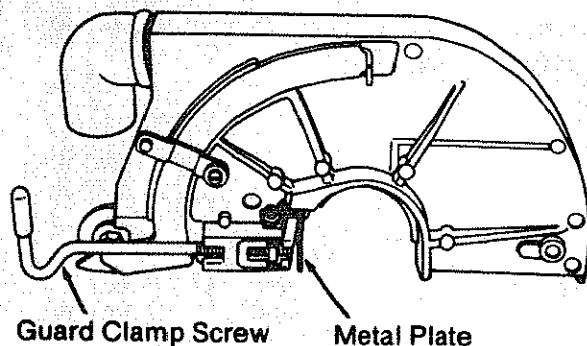

Fig. 124
1. Loosen the *guard clamp screw* until it no longer touches the *metal plate*. (Figure 124)